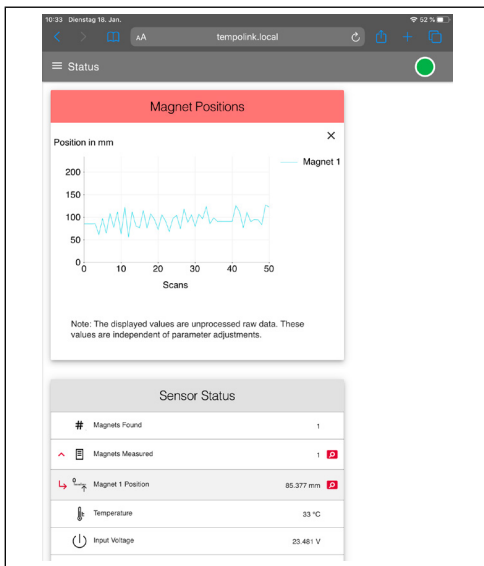

Fig. 24: Graphical display of position values
- **Magnets Measured:** Number of set magnets. By clicking on the red arrow on the left the current position of the magnet is displayed. The magnifying glass on the right of the magnet provides a graphical display of the magnet's position (Fig. 24). Note, that the output of the position values for the graphical display is slower than the output of the position values to the controller.